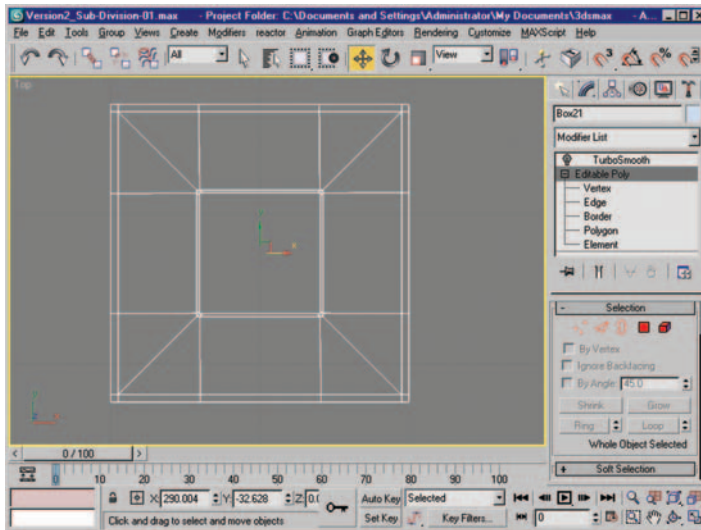

Figure 6.43 *Edges are now spread out at the corners, creating four visible square segments in your wireframe (top viewport).*
9. Repeat this process for all of the new edges (select five at a time), creating a square edge configuration at each corner (Figure 6.43).